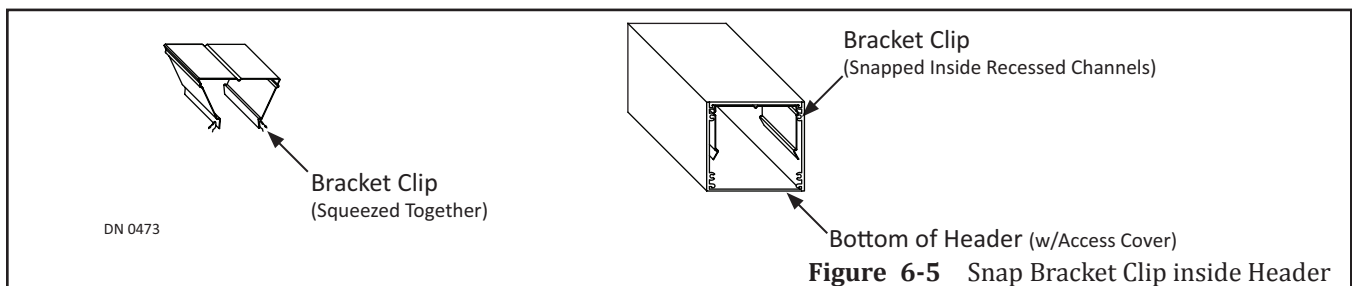

Figure 6-5 Snap Bracket Clip inside Header
2. Squeeze (2) open ends of the Bracket Clip together until both protruding channels are successfully snapped inside each recessed channel. Please see Figure 6-5.